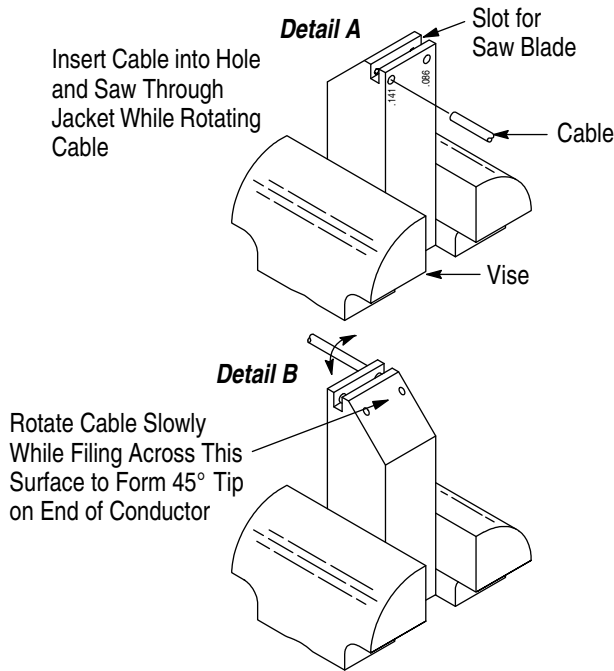

Figure 5
- Insert the cable into the hole corresponding to the cable size as shown in Figure 5, Detail A.
4. Re-insert the cable into the cable dressing fixture for pointing. Refer to Figure 5, Detail B. Keep pressure against the fixture and rotate the cable slowly while filing on the 45° surface with a small pillar file or mill file. Continue filing until the conductor offers no resistance to the file.